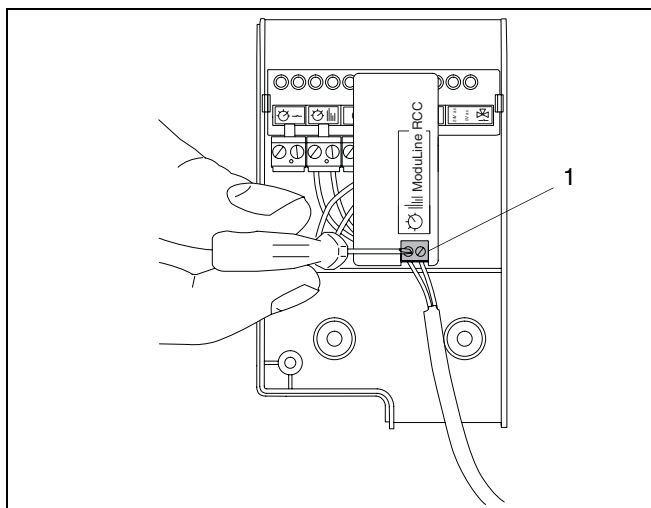

fig. 22 RCC connection box
- Connect a Buderus modulating room thermostat (Buderus iRT or RC) to the RCC connection box (→ fig. 22, item 1).